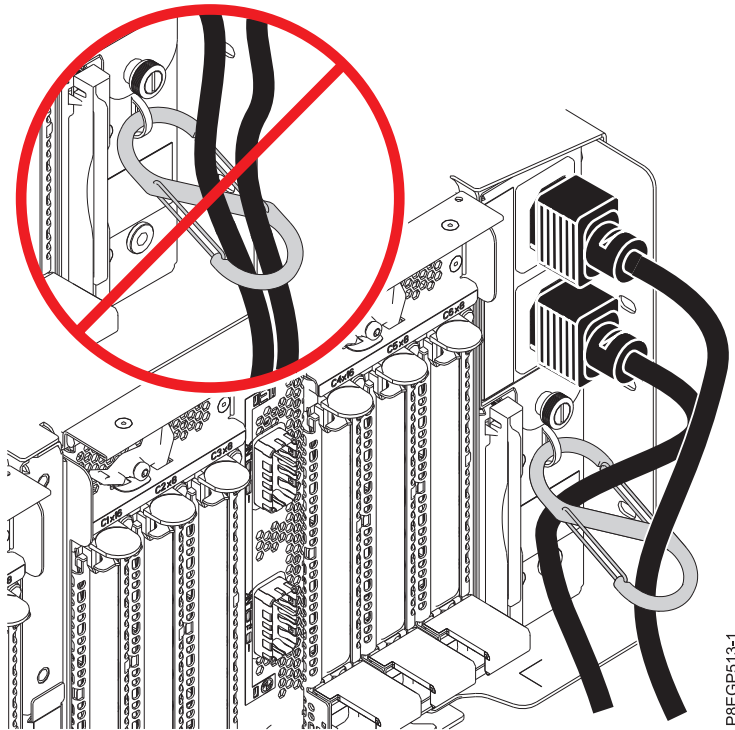

Figure 22. Routing the power cables through the s-carabiner and connecting them to the power supply
- b. Route the power cables through the s-carabiner so that the cables clear the PCIe3 6-slot fanout module or modules. See Figure 22 on page 29.
- c. Connect the other end of the power cables into the power supply on the PCIe3 expansion drawer you are installing. See Figure 22.